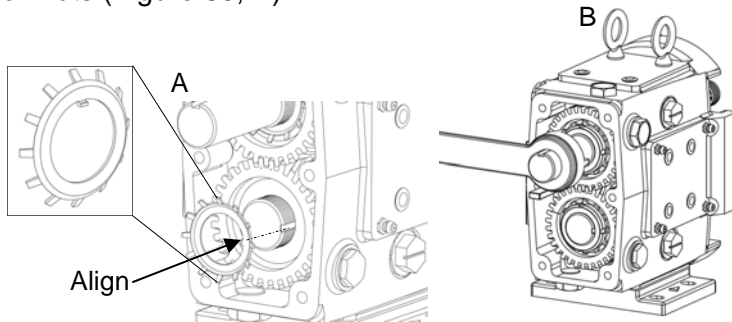

Figure 60: Installing Lock Washer and Lock Nut
9) Install the lock washers on the shaft by aligning the tab inside the lock washer with the slot in the shaft (Figure 60, A). Lubricate the threads of the lock nuts and thread them on the shafts. Using a spanner wrench, tighten them to the specified torque in Table 8. Use a wedge (wood or plastic) between the gear teeth to keep the shafts from turning while tightening the lock nuts (Figure 60, B).